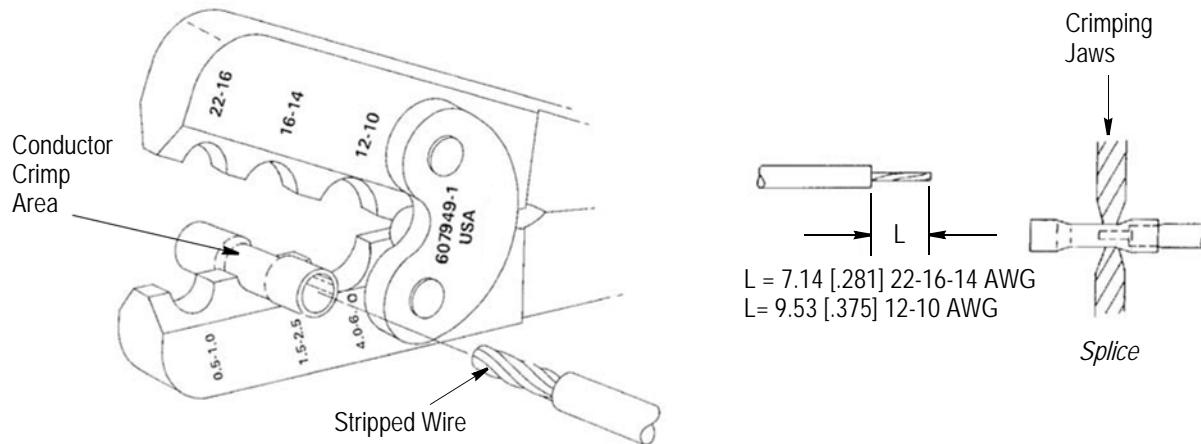

Figure 2
**3. CRIMPING PROCEDURES (Figure 2)**
3. Align conductor portion of terminal in the cavity as shown in Figure 2.
5. Insert a properly stripped wire (Figure 2) into the terminal until it bottoms.